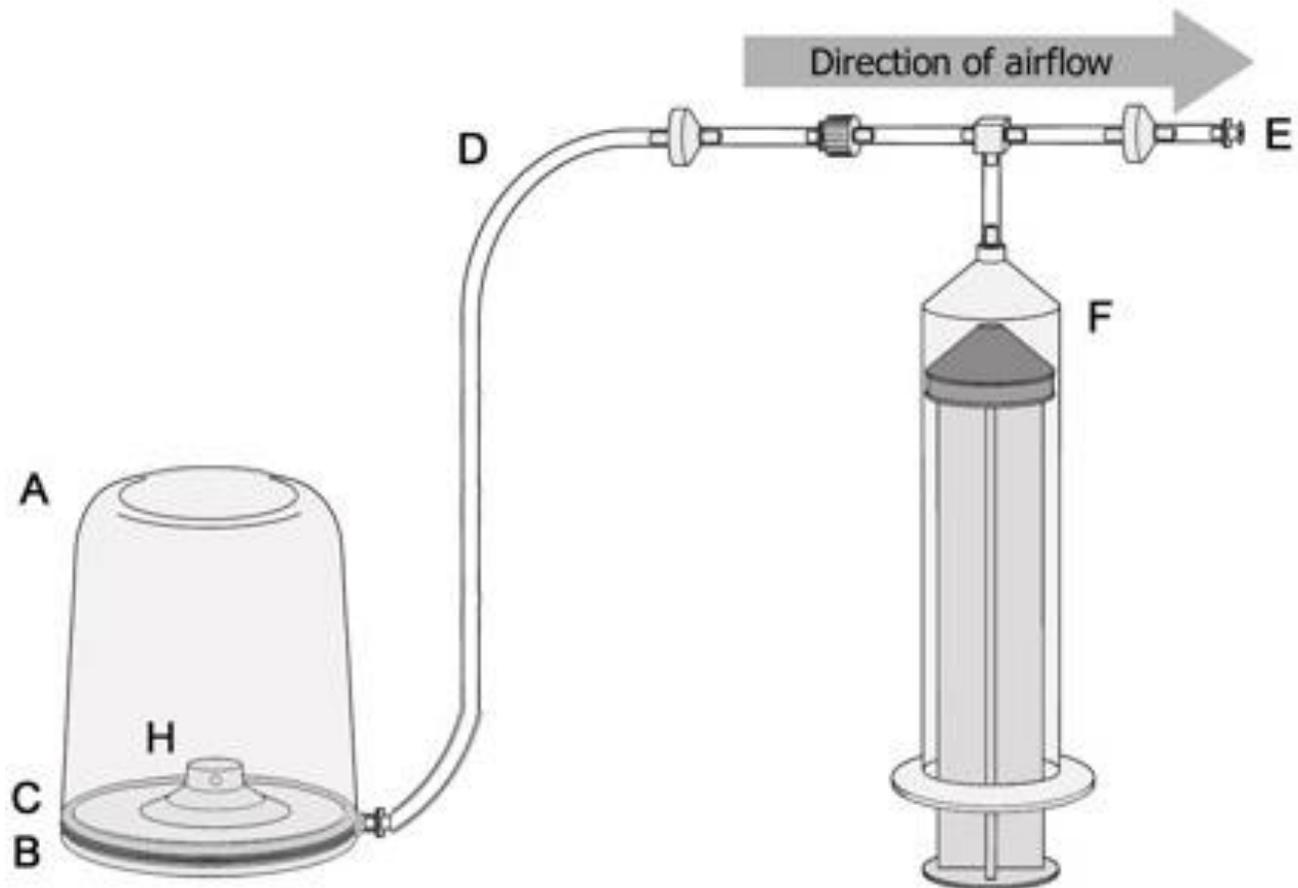

Figure 2.
13. Open the apparatus and take out the balloon. Save it for the next students who will be using the apparatus. Now stick the suction cup firmly to the center of the bottom plate as in Figure 2, and put the bell jar over it, so the suction cup is inside. Turn the bell jar upside down such that the base is on the top. Why does the suction cup stick tightly to the bottom plate instead of falling off?